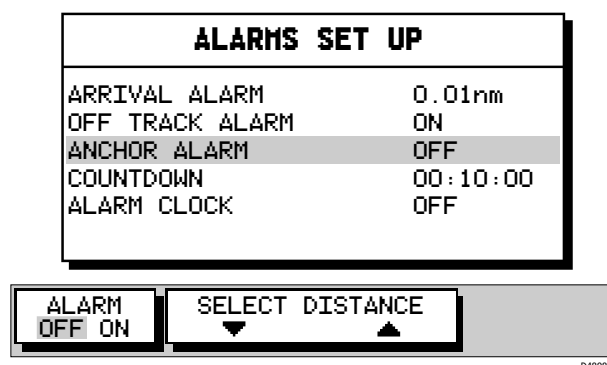

Figure 3-46: Alarms Set Up Menu
1. Press the **ALARMS** key. The Alarms Set Up list is displayed, showing the current settings as shown in *Figure 3-46*.
2. Use the trackpad up/down to navigate through the list. As each line is highlighted, the soft keys are updated to show the current settings and controls, as shown in *Figure 3-46*.